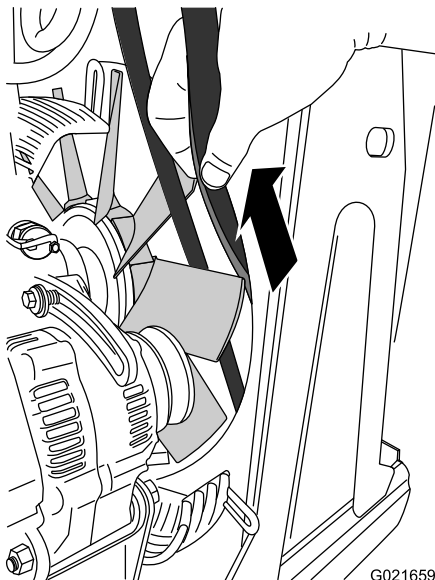

Figure 90
11. Align the belt between 2 of the fan blades, then carefully pull the belt rearward and up until you can remove it from the machine (Figure 90).
1. Align the belt between 2 of the fan blades, and carefully push the belt forward and down until it is in front of the fan (Figure 90).